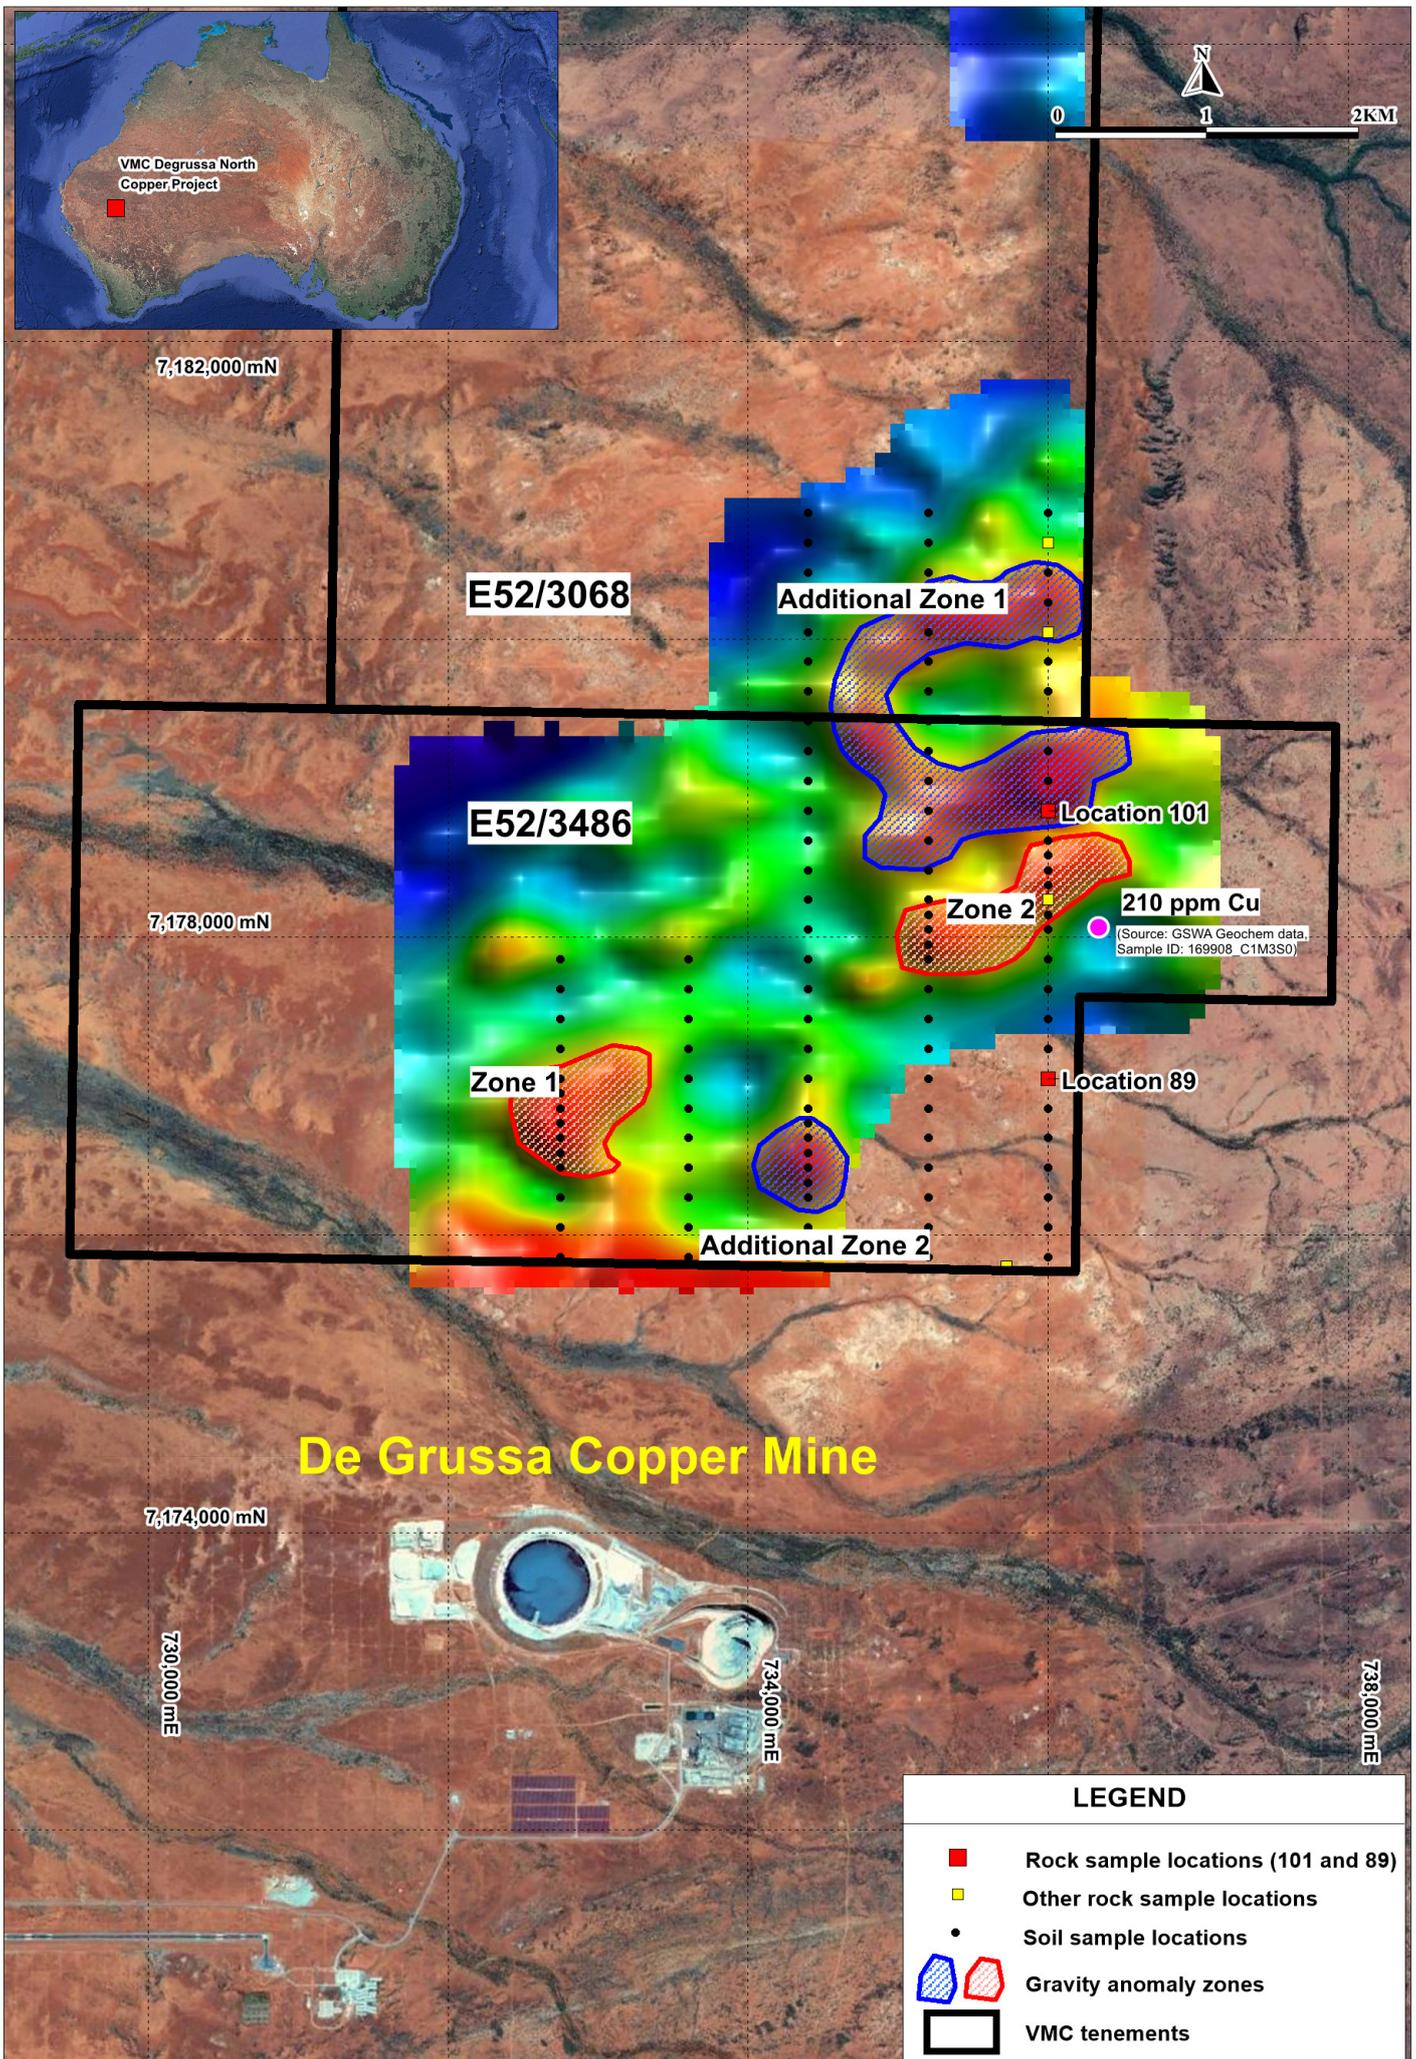

Figure 1. Soil and gossan sample locations - Degrussa North Project showing ground gravity anomalies
- As part of the reconnaissance, a total of 111 soil samples from 5 separate traverses and six rock chip samples from one traverse were also collected over the principal gravity anomalies (Figure 1).
Most of the area investigated is covered by soil and scree from the extensive weathering events in the area. However, intermittent outcrops and subcrops of weathered sedimentary rocks (BIF) and mafic rock were identified along the most easterly field traverse. This included the discovery of subcropping gossans and gossan float at two separate locations (89 and 101) (Figure 1). The two gossan locations are either side of the historical GSWA rock chip copper anomaly as previously reported (refer ASX release 14 December 2018).
The sheared and banded boxwork gossan float from location 101 is from the southern zone of a major gravity anomaly as shown in Figure 1.